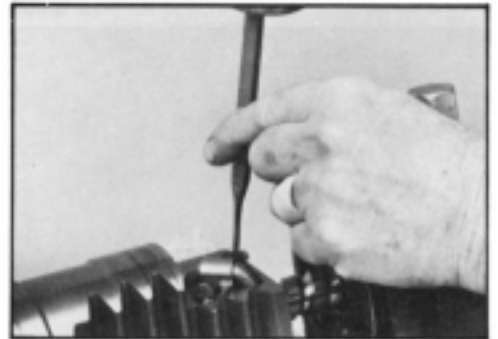

Figure 62
19. Bend the tangs down on the two locking tabs (37). SEE FIGURE 62. Remove the two hex bolts (38), locking tabs and ball return guide clip (36). 7/16 inch socket required. SEE FIGURE 63. Discard lock tabs.